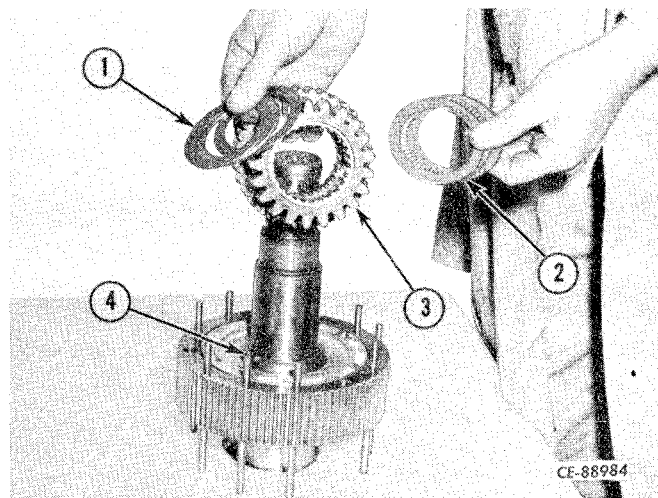

Figure 4-119
Remove the thrust bearing assembly (1, Fig. 4-119), the 3rd speed drive gear (3), and thrust bearing assembly (2).
Remove retaining ring (4, Fig. 4-119).
A washer must be removed that is positioned over the bearing retainer snap ring (4, Fig. 4-119).